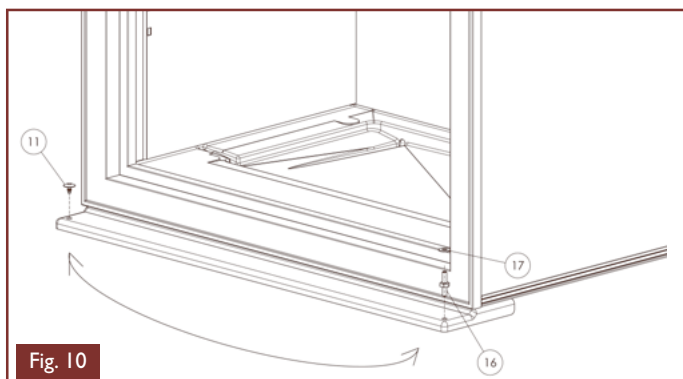

Fig. 10
- Remove the grommet (11) gently using a fine blade, see Fig. 10
- Unscrew the door pivot guide (16) with the washer (17), then tighten it onto the same part on the opposite side, see Fig.10 (a 10mm spanner can be used)
- Relocate the grommet (11), on the opposite side see Fig.10